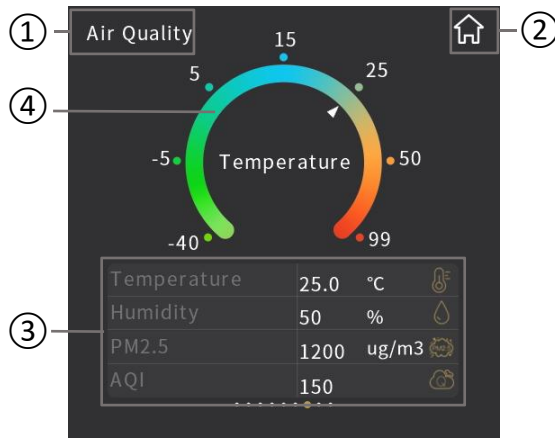
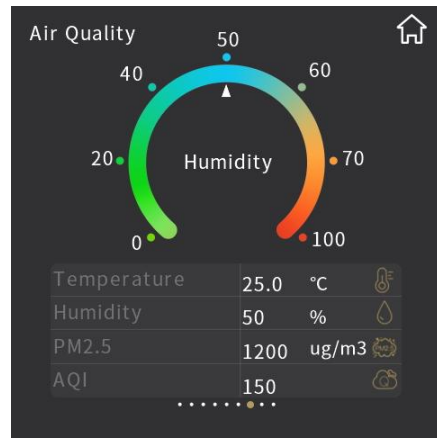
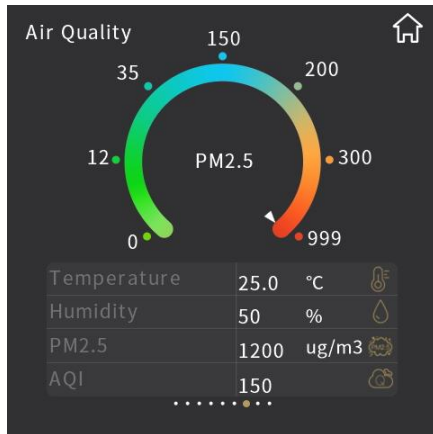
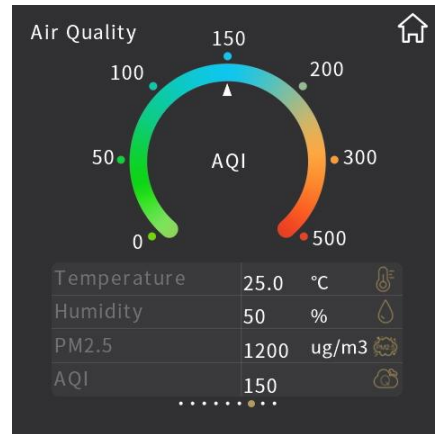

Fig.2.9.1
Fig.2.9.2
Fig.2.9.3
Fig.2.9.4
④ This ring strip is used for displaying the air quality parameter value;
Touch one of the items in the display list at the bottom of the interface, the pointer on the ring strip ④ will point to the corresponding scale, such as Fig.2.9.1 above is the display effect of temperature, Fig.2.9.2 is the display effect of humidity, Fig.2.9.3 is the display effect of CO2 and Fig.2.9.4 is the display effect of AQI.